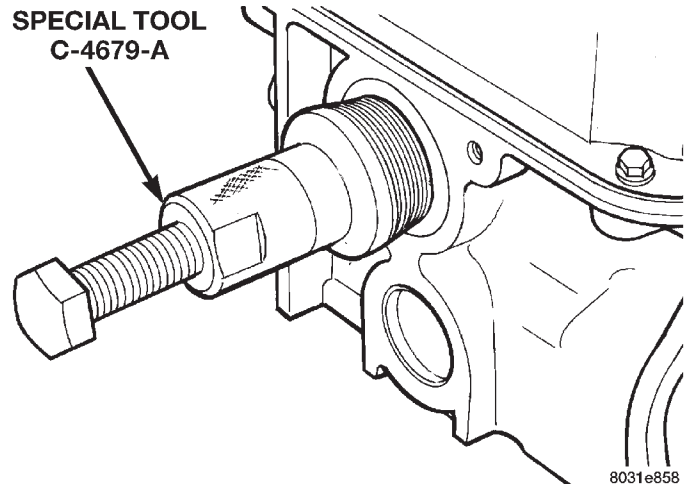

Fig. 37 Removing Camshaft Oil Seal
(4) Remove rear timing belt cover.
(5) Remove camshaft seal using Special Tool C-4679-A (Fig. 37).